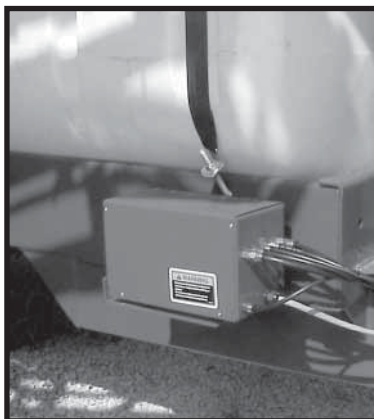

Fig. 18
1. Locate the mounting holes on the right hand side of the sprayer frame. (In front of the tire). Install the mounting bracket using the supplied hardware (**Fig. 18**).